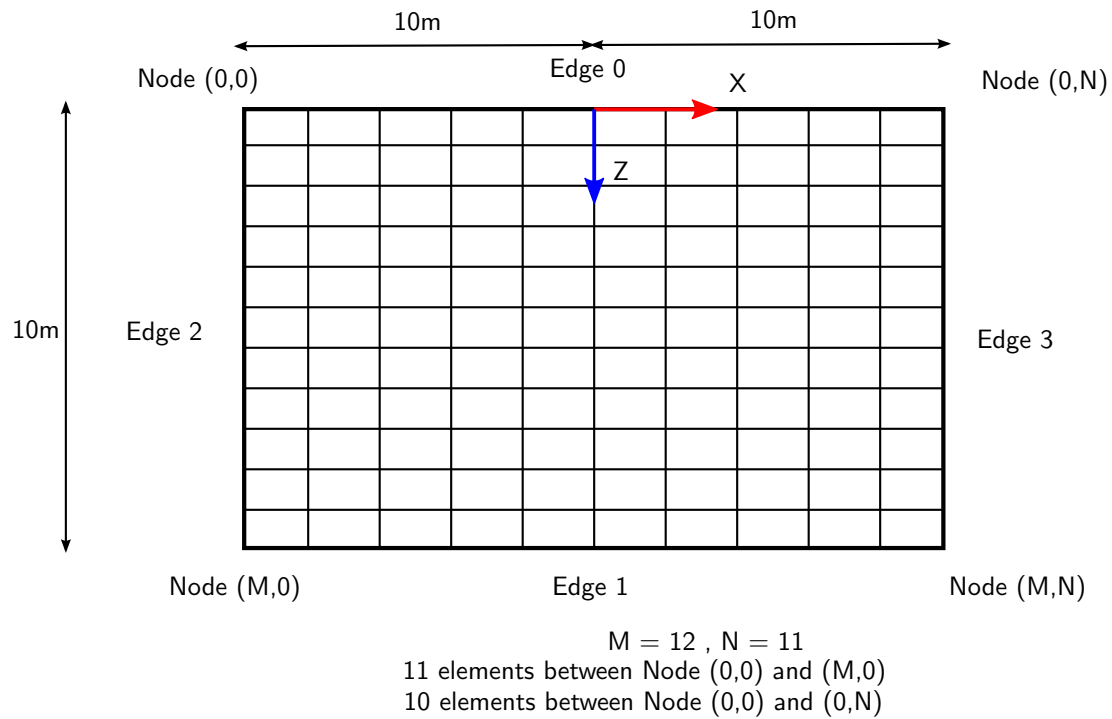

Figure 36: Tutorial net panel schematic
- ✦ Create a net DObject and define its initial condition using the *panel* option according to Figure 36.